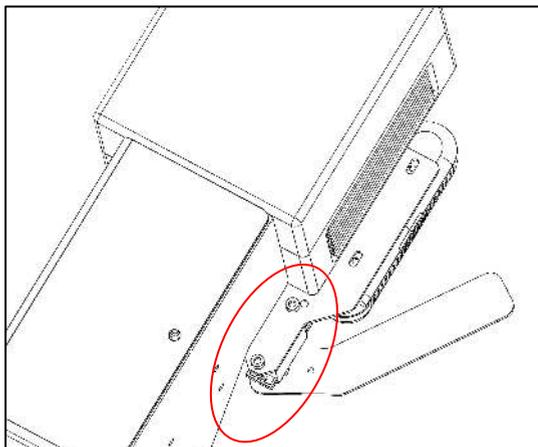

Fig. 28
4. Remove the screws holding the motor in place ( see Fig. 28).